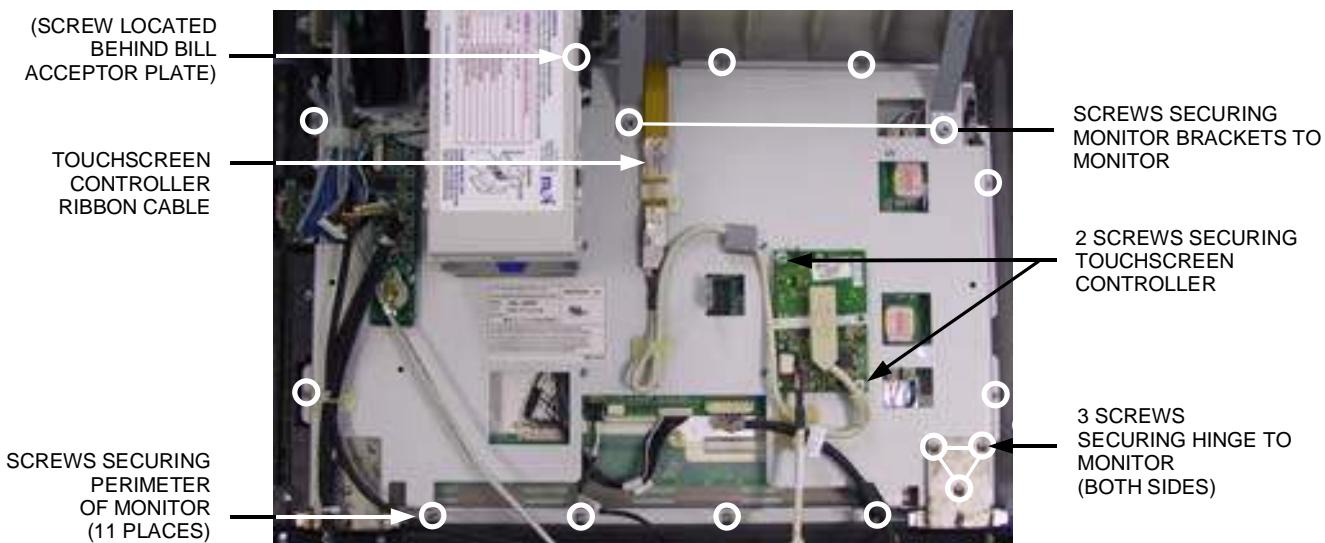

FIGURE 4 - SCREW LOCATION ON REAR OF MONITOR
6. Remove the 2 screws securing the touchscreen controller to the rear of the monitor assembly (see Figure 4), then move the touchscreen controller out of the way for the moment.
7. Remove the screws securing the monitor brackets to the rear of the monitor assembly, then remove the 11 screws that secure the perimeter of the monitor (see Figure 4). Remove the monitor from the bezel.
8. *If you are replacing the monitor:* Remove the 3 screws securing each hinge to the bottom of the monitor (see Figure 4).
1. *If you are replacing the touchscreen:* Place the new touchscreen into the monitor bezel with the touchscreen controller ribbon positioned at the top of the bezel (see Figure 4). The touchscreen should rest flush against the foam on the inside of the bezel, and the tape on the new touchscreen should be positioned away from the bezel. **NOTE: Do NOT remove the backing from the tape on the touchscreen.** Replace the monitor on top of the touchscreen with the same orientation it had before you removed it from the system (see Figure 4). Be sure to wrap the touchscreen controller ribbon over the top of the monitor as shown in Figure 4. Attach the touchscreen controller cable connector to the touchscreen controller (see Figure 1), then secure the touchscreen controller to the back of the monitor using the same 2 screws you removed earlier (see Figure 4).
If you are replacing the monitor: Place the new monitor on top of the touchscreen in the same orientation as the monitor you removed (see Figure 4). **NOTE: Do NOT remove the backing from the tape on the touchscreen.** Be sure that the touchscreen controller ribbon cable coming from the touchscreen is wrapped over the monitor as shown in Figure 4. Secure the touchscreen controller to the back of the monitor using the same two screws you removed earlier (see Figure 4). Reconnect the OSD cable connector to the OSD board, then secure the OSD board to the Velcro on the rear of the new monitor (see Figure 1 for proper location). Attach the bottom hinges to the new monitor using the 6 screws (3 for each hinge) you removed earlier (see Figure 4). You may need to attach the provided wire clamps to the rear of the monitor assembly. If so, note their location on the rear of the monitor you removed, or use Figure 4 as a guide.
2. Resecure the 11 screws around the perimeter of the monitor (see Figure 4), and secure the monitor brackets to the rear of the monitor with the 2 screws you removed earlier (see Figure 4).